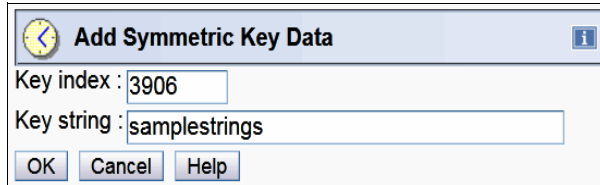

Figure 8-14 Add Symmetric Key Data
4. The Add Symmetric Key Data window opens (see Figure 8-14). The following data must be entered: